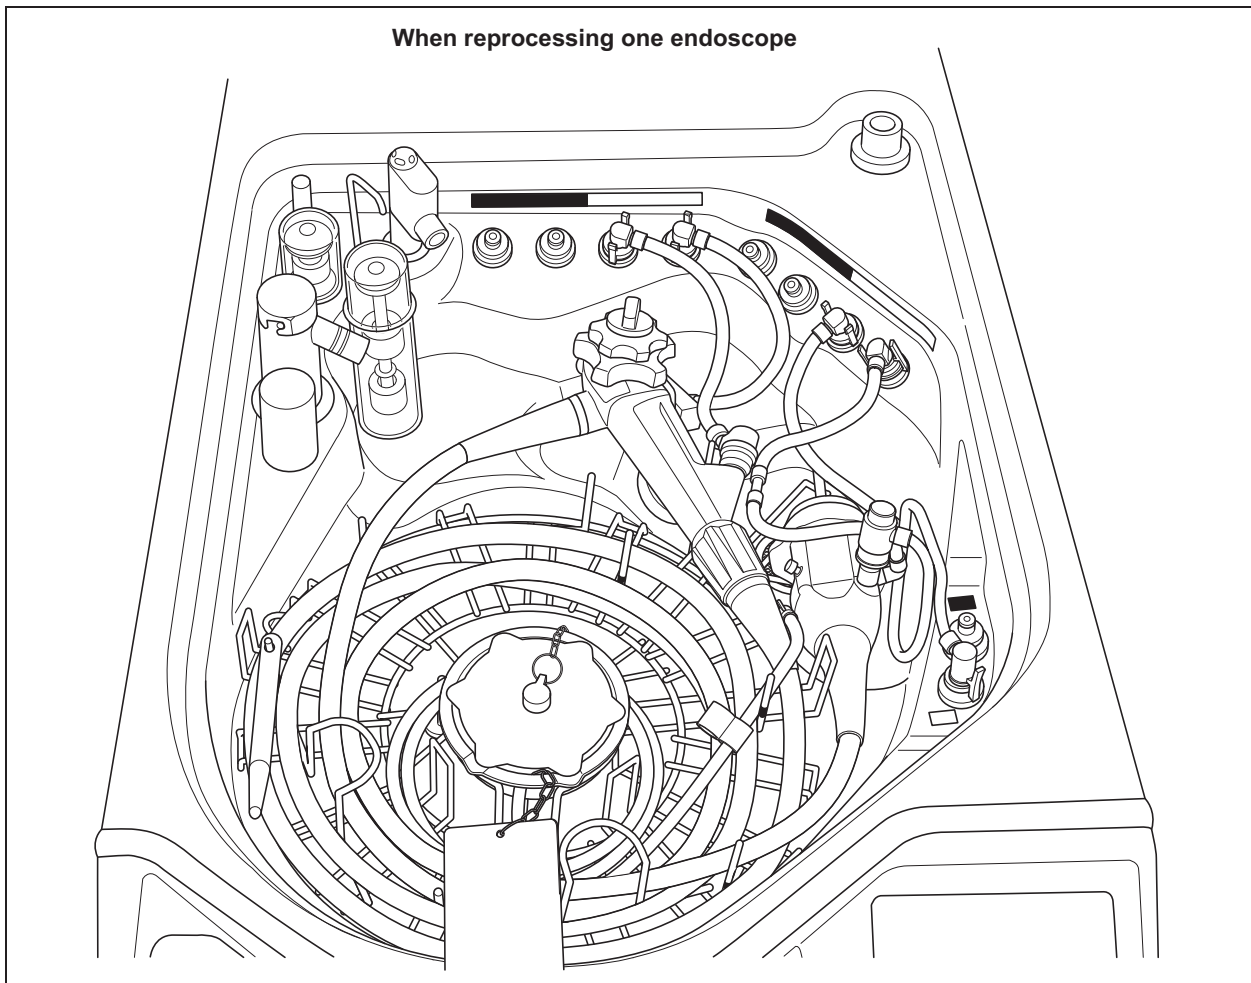
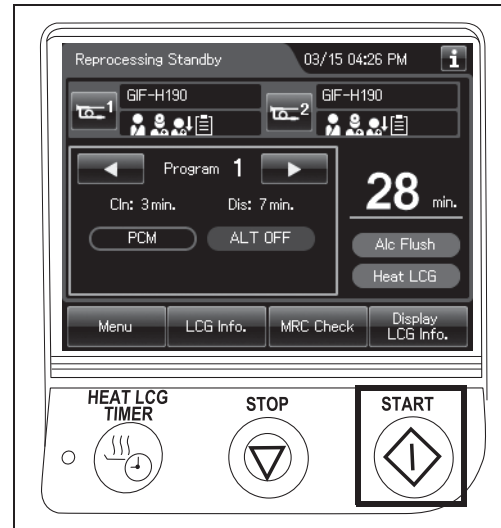

Figure 6.55
Figure 6.58
- ### 4 Close the lid by pushing until it clicks and check that any parts of endoscopes do not touch the lid. Figure 6.55 shows the case of the reprocessing one endoscope. Figure 6.58 shows the case of reprocessing two endoscopes.